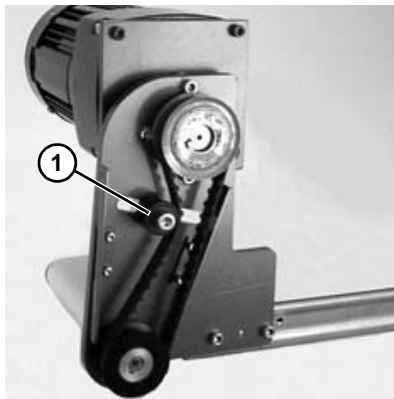

Figure 17
2. Loosen tensioner (**Figure 17, item 1**).